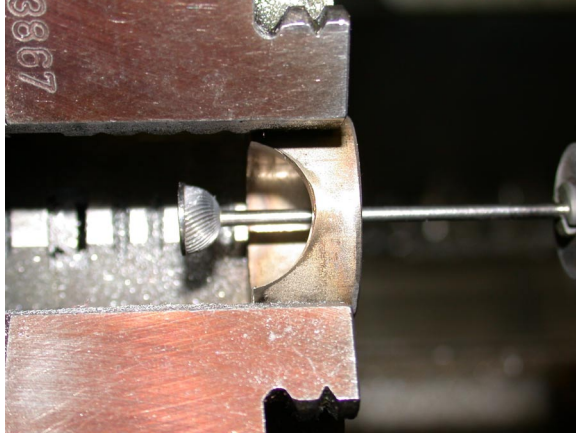

Figure 4
3. Advance the tool forward (Z axis) so it protrudes through the part. (Figure 4)